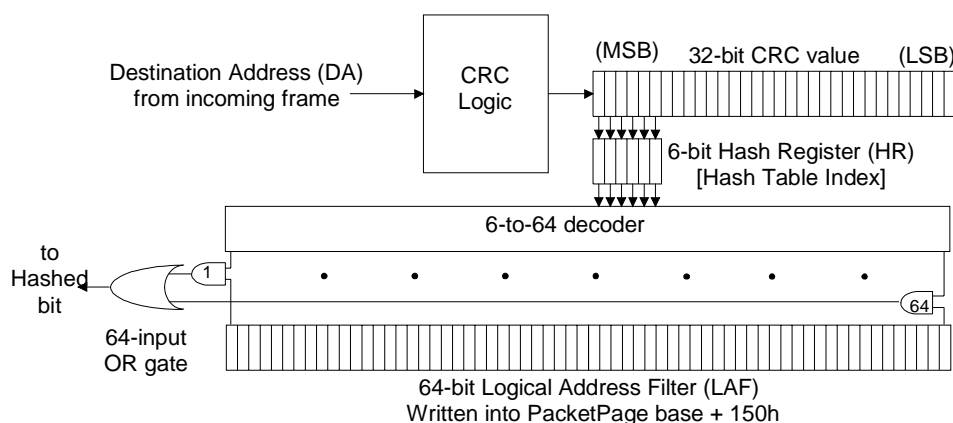

Figure 21. Hash Filter Operation
See Figure 21. The DA of the incoming frame is passed through the CRC logic, generating a 32-bit CRC value. The six most-significant bits of the CRC are latched into the 6-bit hash register (HR). The contents of the HR are passed through a 6-to-64-bit decoder, asserting one of the decoder's outputs. The asserted output is compared with a corresponding bit in the 64-bit Logical Address Filter,